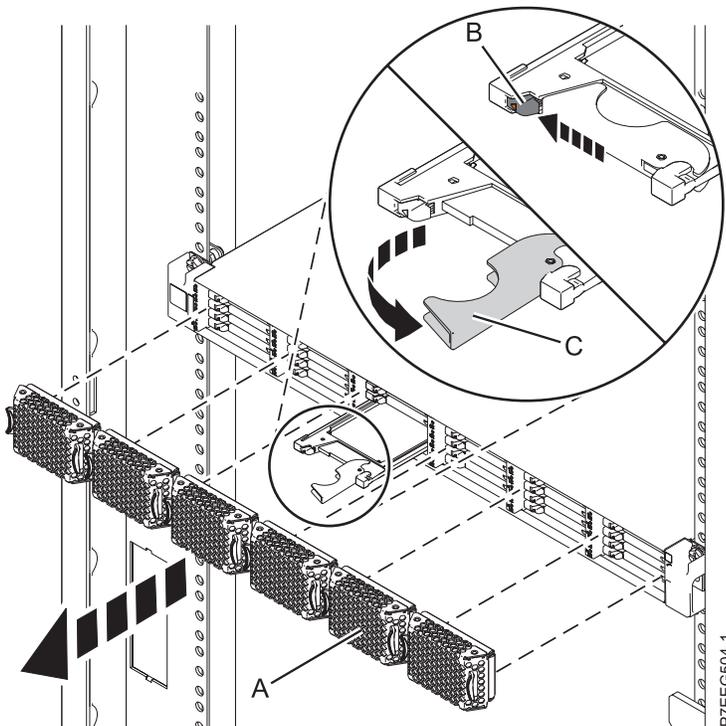

Figure 17. Removing the solid-state drive from the ED/R1 PCIe storage enclosure
4. Pull off the bezel (A) that covers the slot that contains the solid-state drive.
5. When the solid-state drive identify LED turns on solid, slide the release latch (B) over gently to unlock the drive handle. See Figure 17.
6. Grasp the handle (C) and pull the drive partially out of the slot.